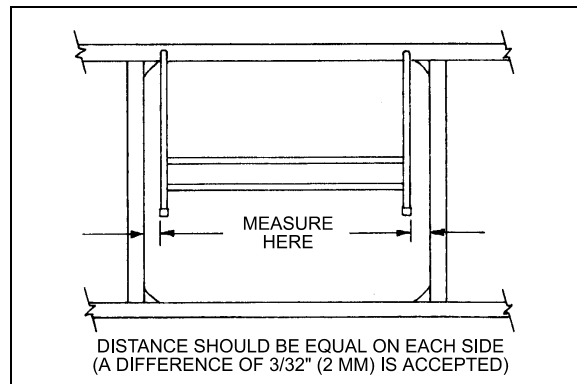

FIGURE 53: PANTOGRAPH DOOR ADJUSTMENT 18063
- When the door is straight, remove the 2x4's and check door operation and fit. A difference of $3/32"$ (2mm) between both sides is accepted (Fig. 53).